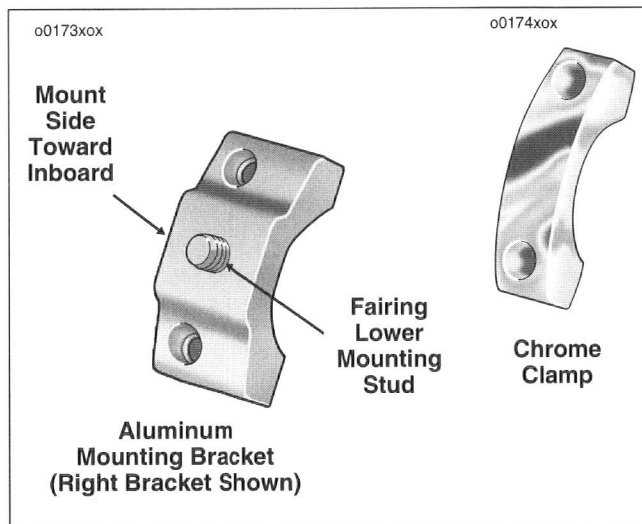

Figure 32. Fairing Lower Bracket/Clamps
6. See Figure 32. Install fairing lower (chrome) clamp (Part No. 58490-79), using the two fasteners removed in step 5. (Align in board edge aluminum bracket to be flush with in board edge of fairing support.) Tighten fasteners to 36-60 in-lbs (4-7 Nm) torque.